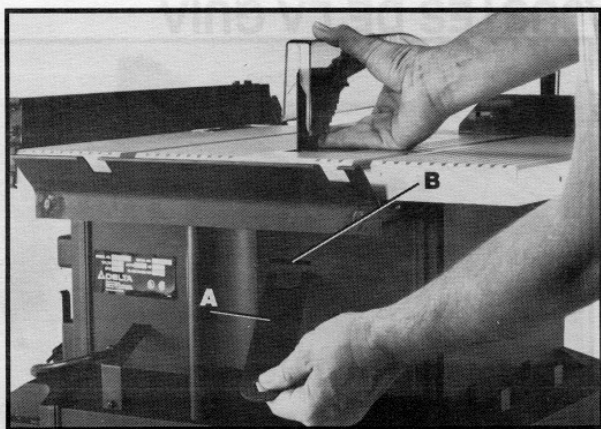

Fig. 39
2. Lower saw blade and insert end of wrench (A) Fig. 39, into slot (B) on back of saw cabinet.